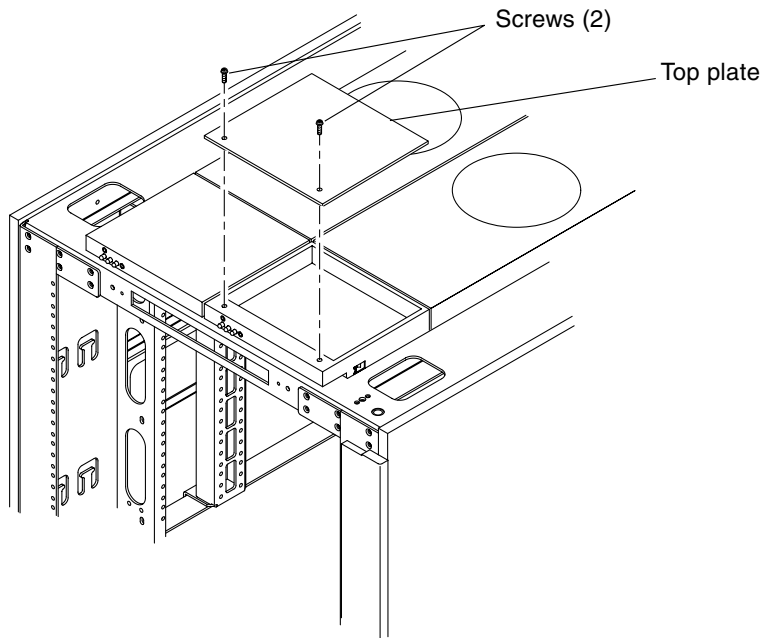

FIGURE 6-9 Cabinet Fan Tray Top Plate
4. Loosen and then remove the two screws from the fan assembly top plate (FIGURE 6-9).